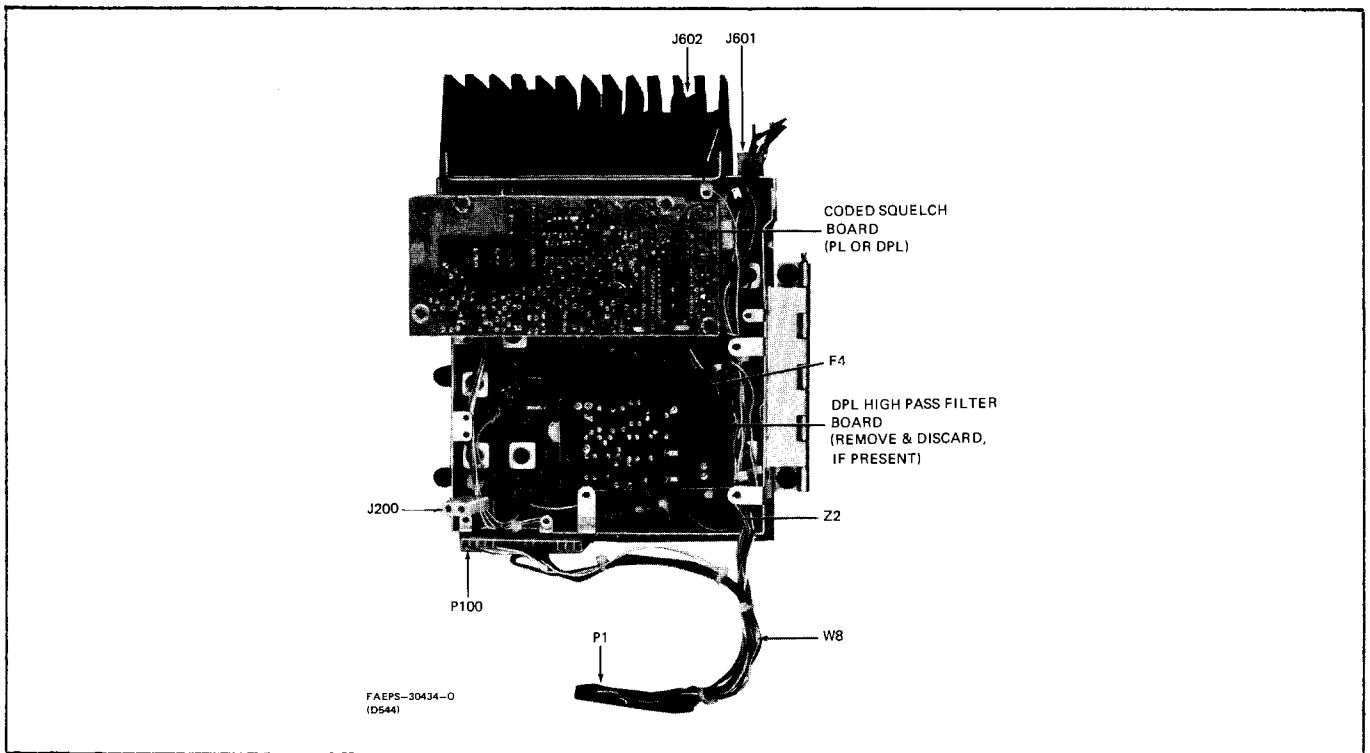

Figure 1. Radio Interconnect Cable W8 Routing
- Step 22. Route the new radio interconnect cable (identified W8; Motorola part number: 1-80722D51) as shown in Figure 1. Plug J100 (WHT) into P100 on the unified chassis and plug J1 (RED) into P1 on the control board. Route the lugged ends of the cable back, along the inside edge of the unified chassis, to "metering" socket J601. Fasten W8 to the chassis with two cable ties supplied with the field modification kit. Plug the 3-watt audio board back into the control board.